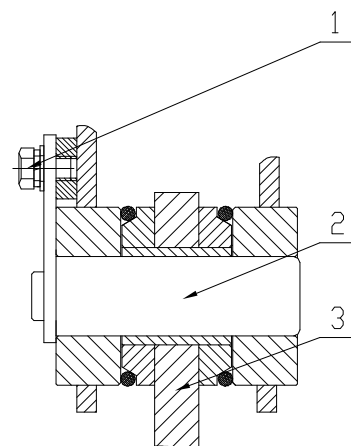

Figure 2
Release the pin platen bolts of the bucket (1, Figure 2), and then remove the bucket pin (2), take out the lift arm (3).
Lock the Pin Plate bolts of Bucket (1, Figure 2).